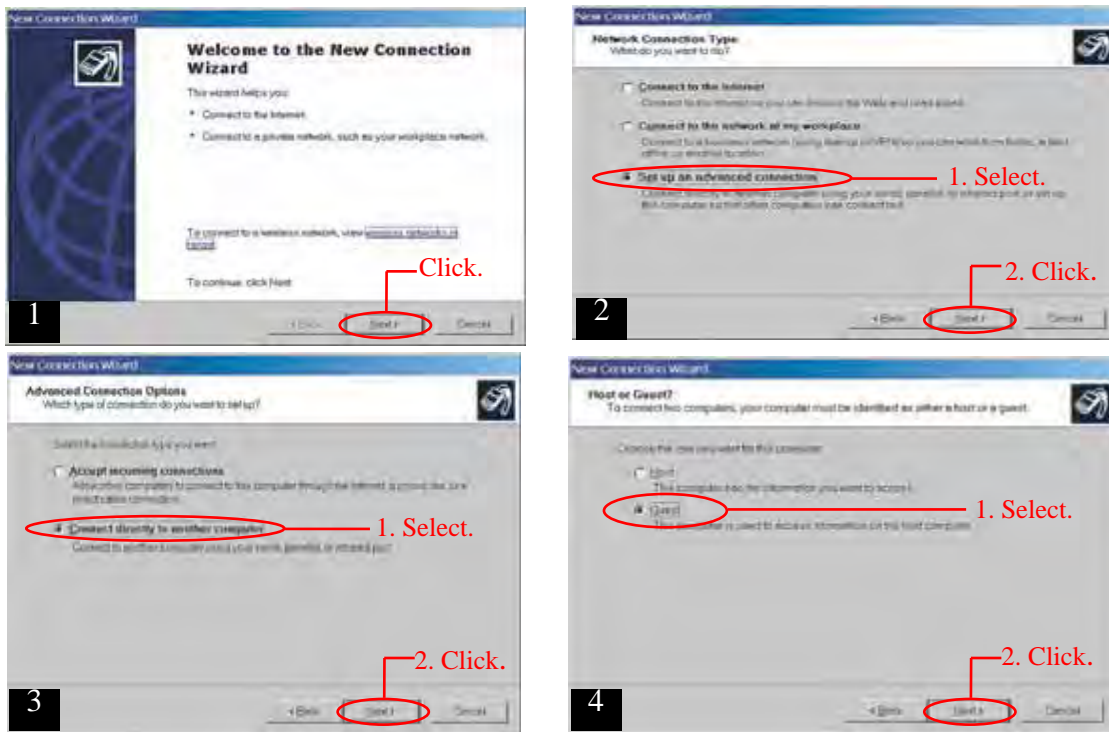

Figure 5-14. Setting Up a Direct Serial Connection (Screens 1 through 4).
4. Click on **Next** (Screen 1, Figure 5-14).
5. Select **Set up an advanced connection**, and click on **Next** (Screen 2, Figure 5-14).
6. Select **Connect directly to another computer**, and click on **Next** (Screen 3, Figure 5-14).
7. Select **Guest**, and click on **Next** (Screen 4, Figure 5-14).
3. Select **Guest**, and click on **Next** (Screen 4, Figure 5-14).